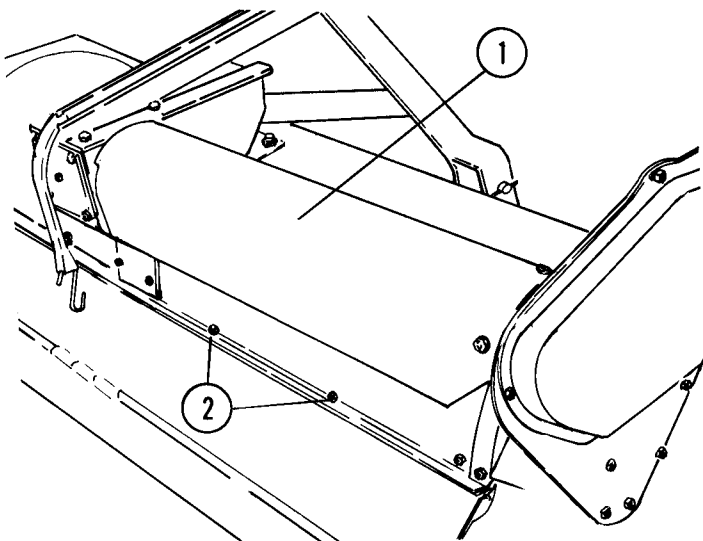

Fig. 16 — Torque Limiter
1. Remove shield from top of shroud by removing six bolts, Figure 16.